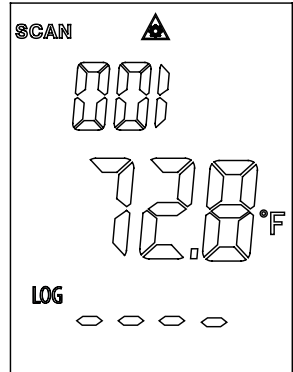

Fig. 1
1. While holding the trigger, press the **MODE** button until the **LOG** icon appears in the lower left corner of the screen. A LOG location number will be shown in the top display and “_____” will appear in the bottom display if no temperature has been saved to that location (Fig. 1).